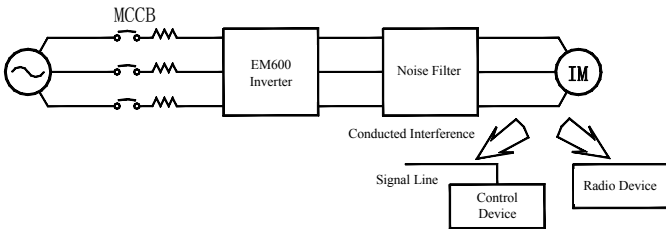

Figure 3-8 Noise Filter Installation on the Output Side
- Noise filter is installed on the output side (as shown in Figure 3-8).